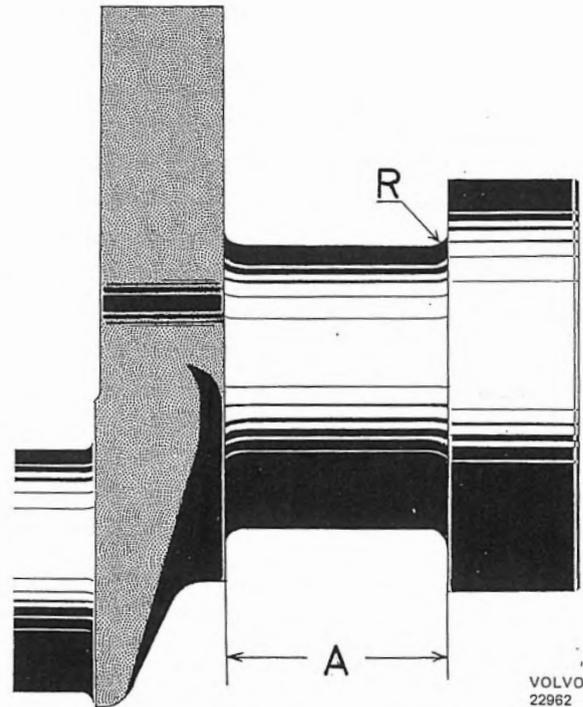

Fig. 2-35. Bearing journal
The fillets at the ends of the journals should have a radius of 2.0–2.5 mm (0.080–0.100") on all journals, see Fig. 2-35. The width measurement (A) for the pilot bearing depends on the size of the journal and should be ground in order to obtain the correct measurement.